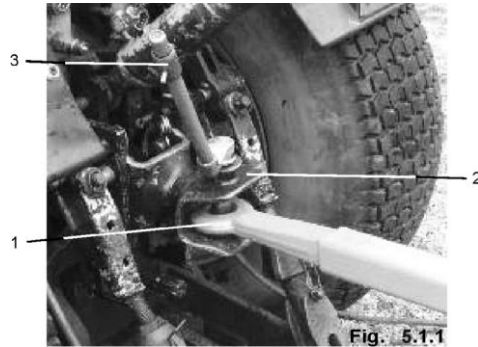

Fig. 5.1.1
- Couple the machine to the yoke bar (Fig. 5.1.1/2) of the tractor with the towing eye (Fig. 5.1.1/1).
- Secure the pin (tractor-dependent) (Fig. 5.1.1/3).